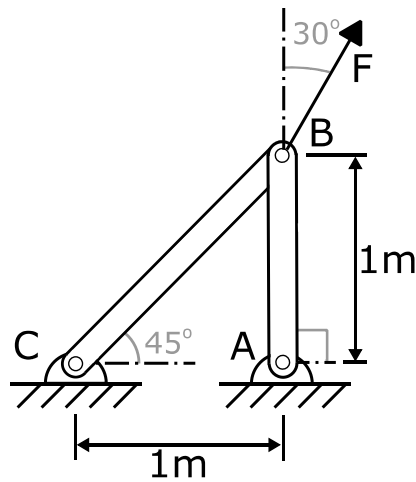

Figure Q2
2. The pin-jointed framework ABC is subjected to an external load as shown in Figure Q2. If each member has a product  $AE$  of 200 MN: